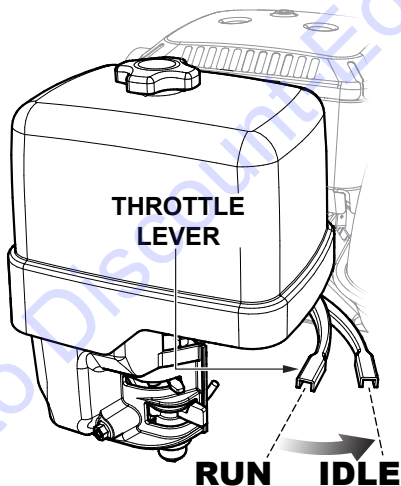

Figure 41. Throttle Lever (SLOW)
- Place the throttle lever in the **SLOW** (idle) position, and let the engine idle for 3–5 minutes. See Figure 41.